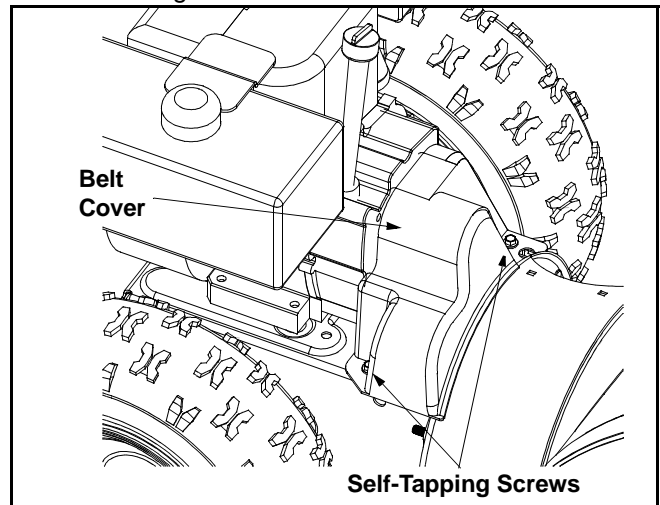

Figure 16
- Remove the plastic belt cover by removing the two self-tapping screws. See Figure 16.